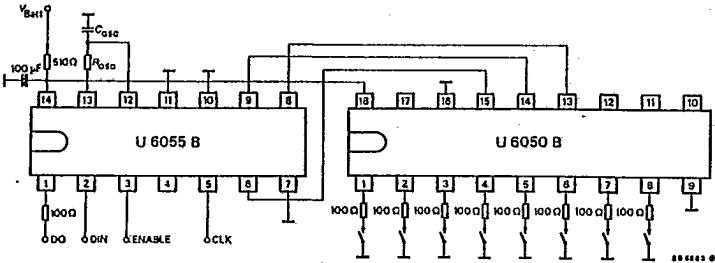

Fig. 10
- Any combinations of U 6050 B and U 6055 B are possible. Figs. 10 and 11.